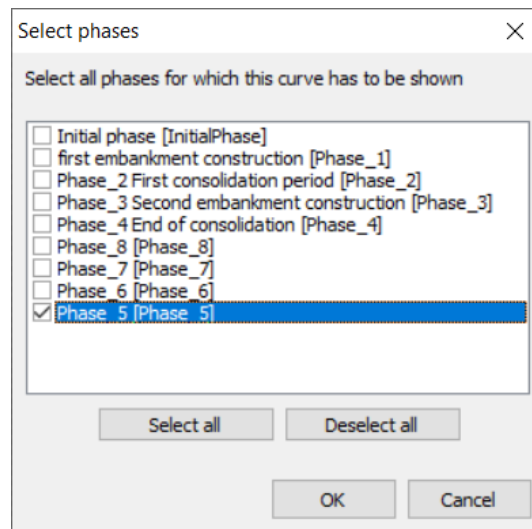

Figure 124: The Select phases window
7. In the **Select phases** window select Phase 5 shown in Figure 124 (on page 142):